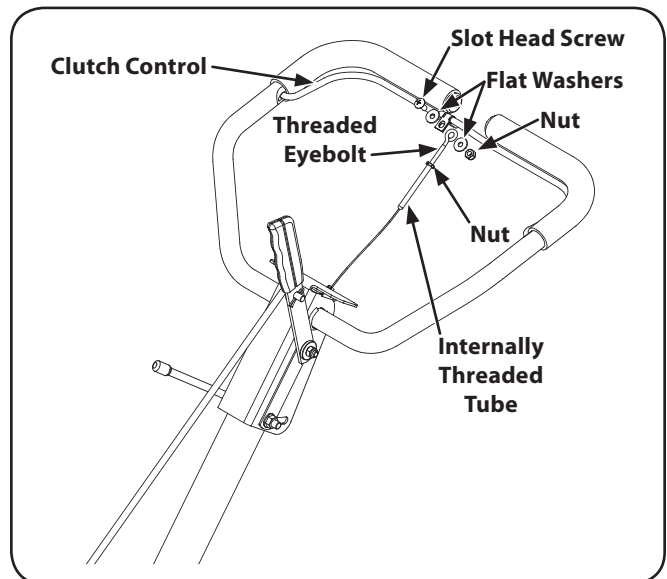

Figure 3-4
4. Remove the slot head screw, nut, and two flat washers from the clutch bail. See Fig. 3-4.
- Thread the eyebolt and nut removed earlier into the internally threaded tube at the end of the cable. Thread engagement should be about  $\frac{3}{4}$ ". Tighten the nut against the tube at the end of the cable. See Fig. 3-4.